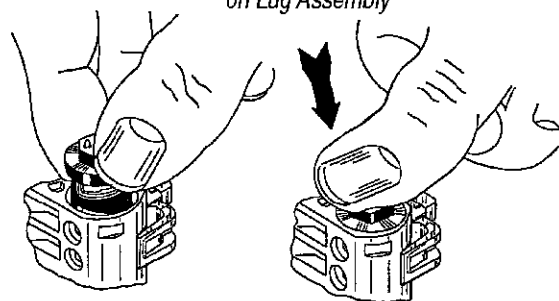

Figure 16
5. Select the black or red replacement lug assembly and place the lug in the module. The lug must be in the open position. See Figure 16.